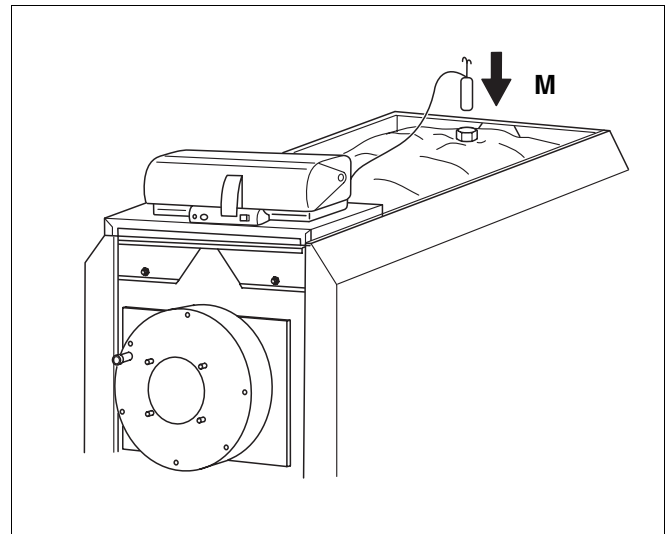

Fig. 19 Sensor to the sensor well
- Route the capillary tubes with sensor to the sensor well (Fig. 19).
- Insert the sensor into the sensor well, until it bottoms out (sensor well **M**, see page 6 in Fig. 1) (Fig. 19).